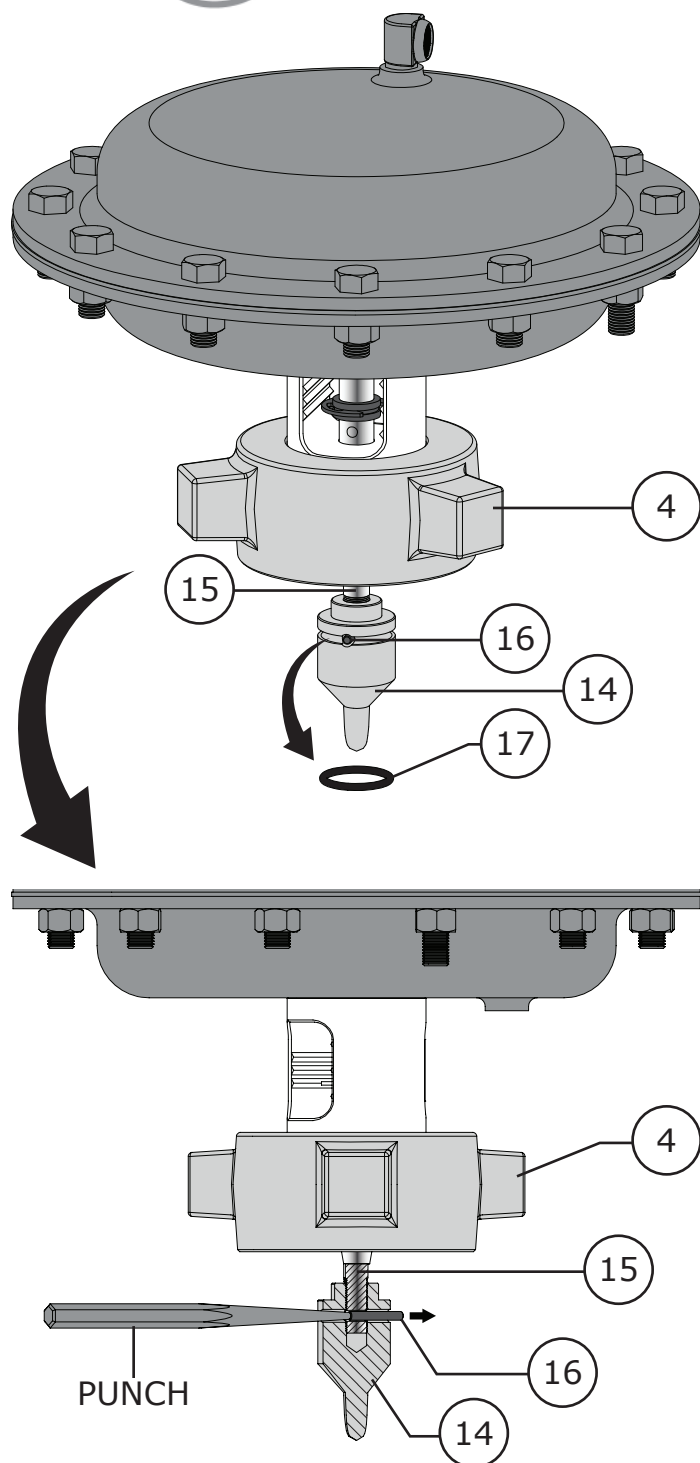

Figure 7 Plug Removal (Steps 1 and 2)
- 1 Using a mechanic pick, remove the pin o-ring (Key 17) from the valve plug (Key 14). Refer to Figure 7.